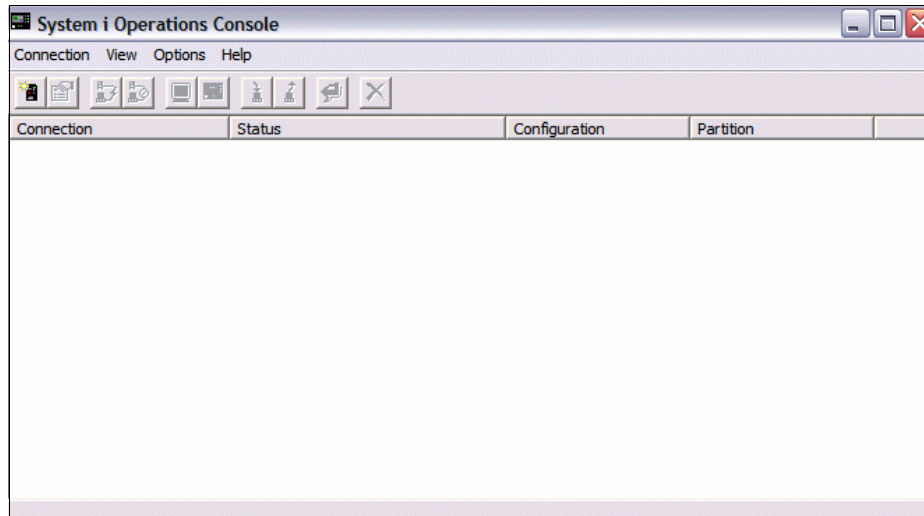

Figure 7-33 IBM System i Operations Console
1. In the active Windows session, select **Start → All Programs → IBM System i Access for Windows → Operations Console**. The window shown in Figure 7-33 on page 281 should appear.
Figure 7-33 on page 281 shows an example of the System i Operations Console panel.